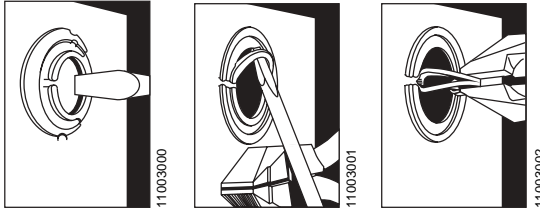

Figure 2: Removing the Knockouts
- Remove the appropriate knockouts required for installation of cable clamps or conduit (Table 1). To remove the knockouts, see Figure 2.